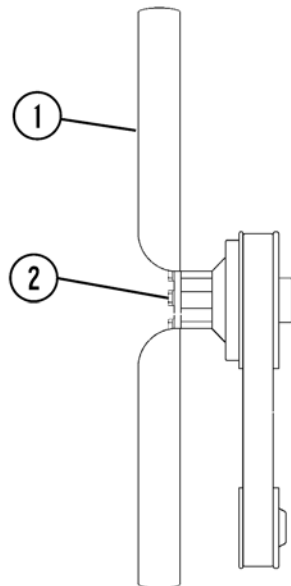

FIGURE 40-7.
2. ENGINE - Refer to the engine manufacturer's Operation & Maintenance manual for complete specifications regarding engine lube oil specifications. NOTE: If the engine is equipped with the *Centinel™ oil system and/or the Eliminator™ filter system, engine oil and filter change intervals are extended beyond 250 hours. Take an engine oil sample for analysis. Refer to engine Operation & Maintenance manual for specific oil and filter change intervals. * The Centinel™ system is a duty-cycle-dependent lubrication management system whereby oil is blended with the fuel and burned and an extension of oil change intervals can occur. <ol style="list-style-type: none"> a. Change engine oil. (Lube Key A) b. If equipped, replace the engine oil filters. Follow the instructions of the filter manufacturer, which are normally printed on the outside of the filter. Do not use a wrench or strap to tighten filter elements. c. Check the torque on the cooling fan (1, Figure 40-7) mounting cap screws. Tighten cap screws (2) to 237 N·m (175 ft lb). d. Check the tension and condition of each accessory drive belt. Refer to the engine operation and maintenance manual for specific adjustment instructions.